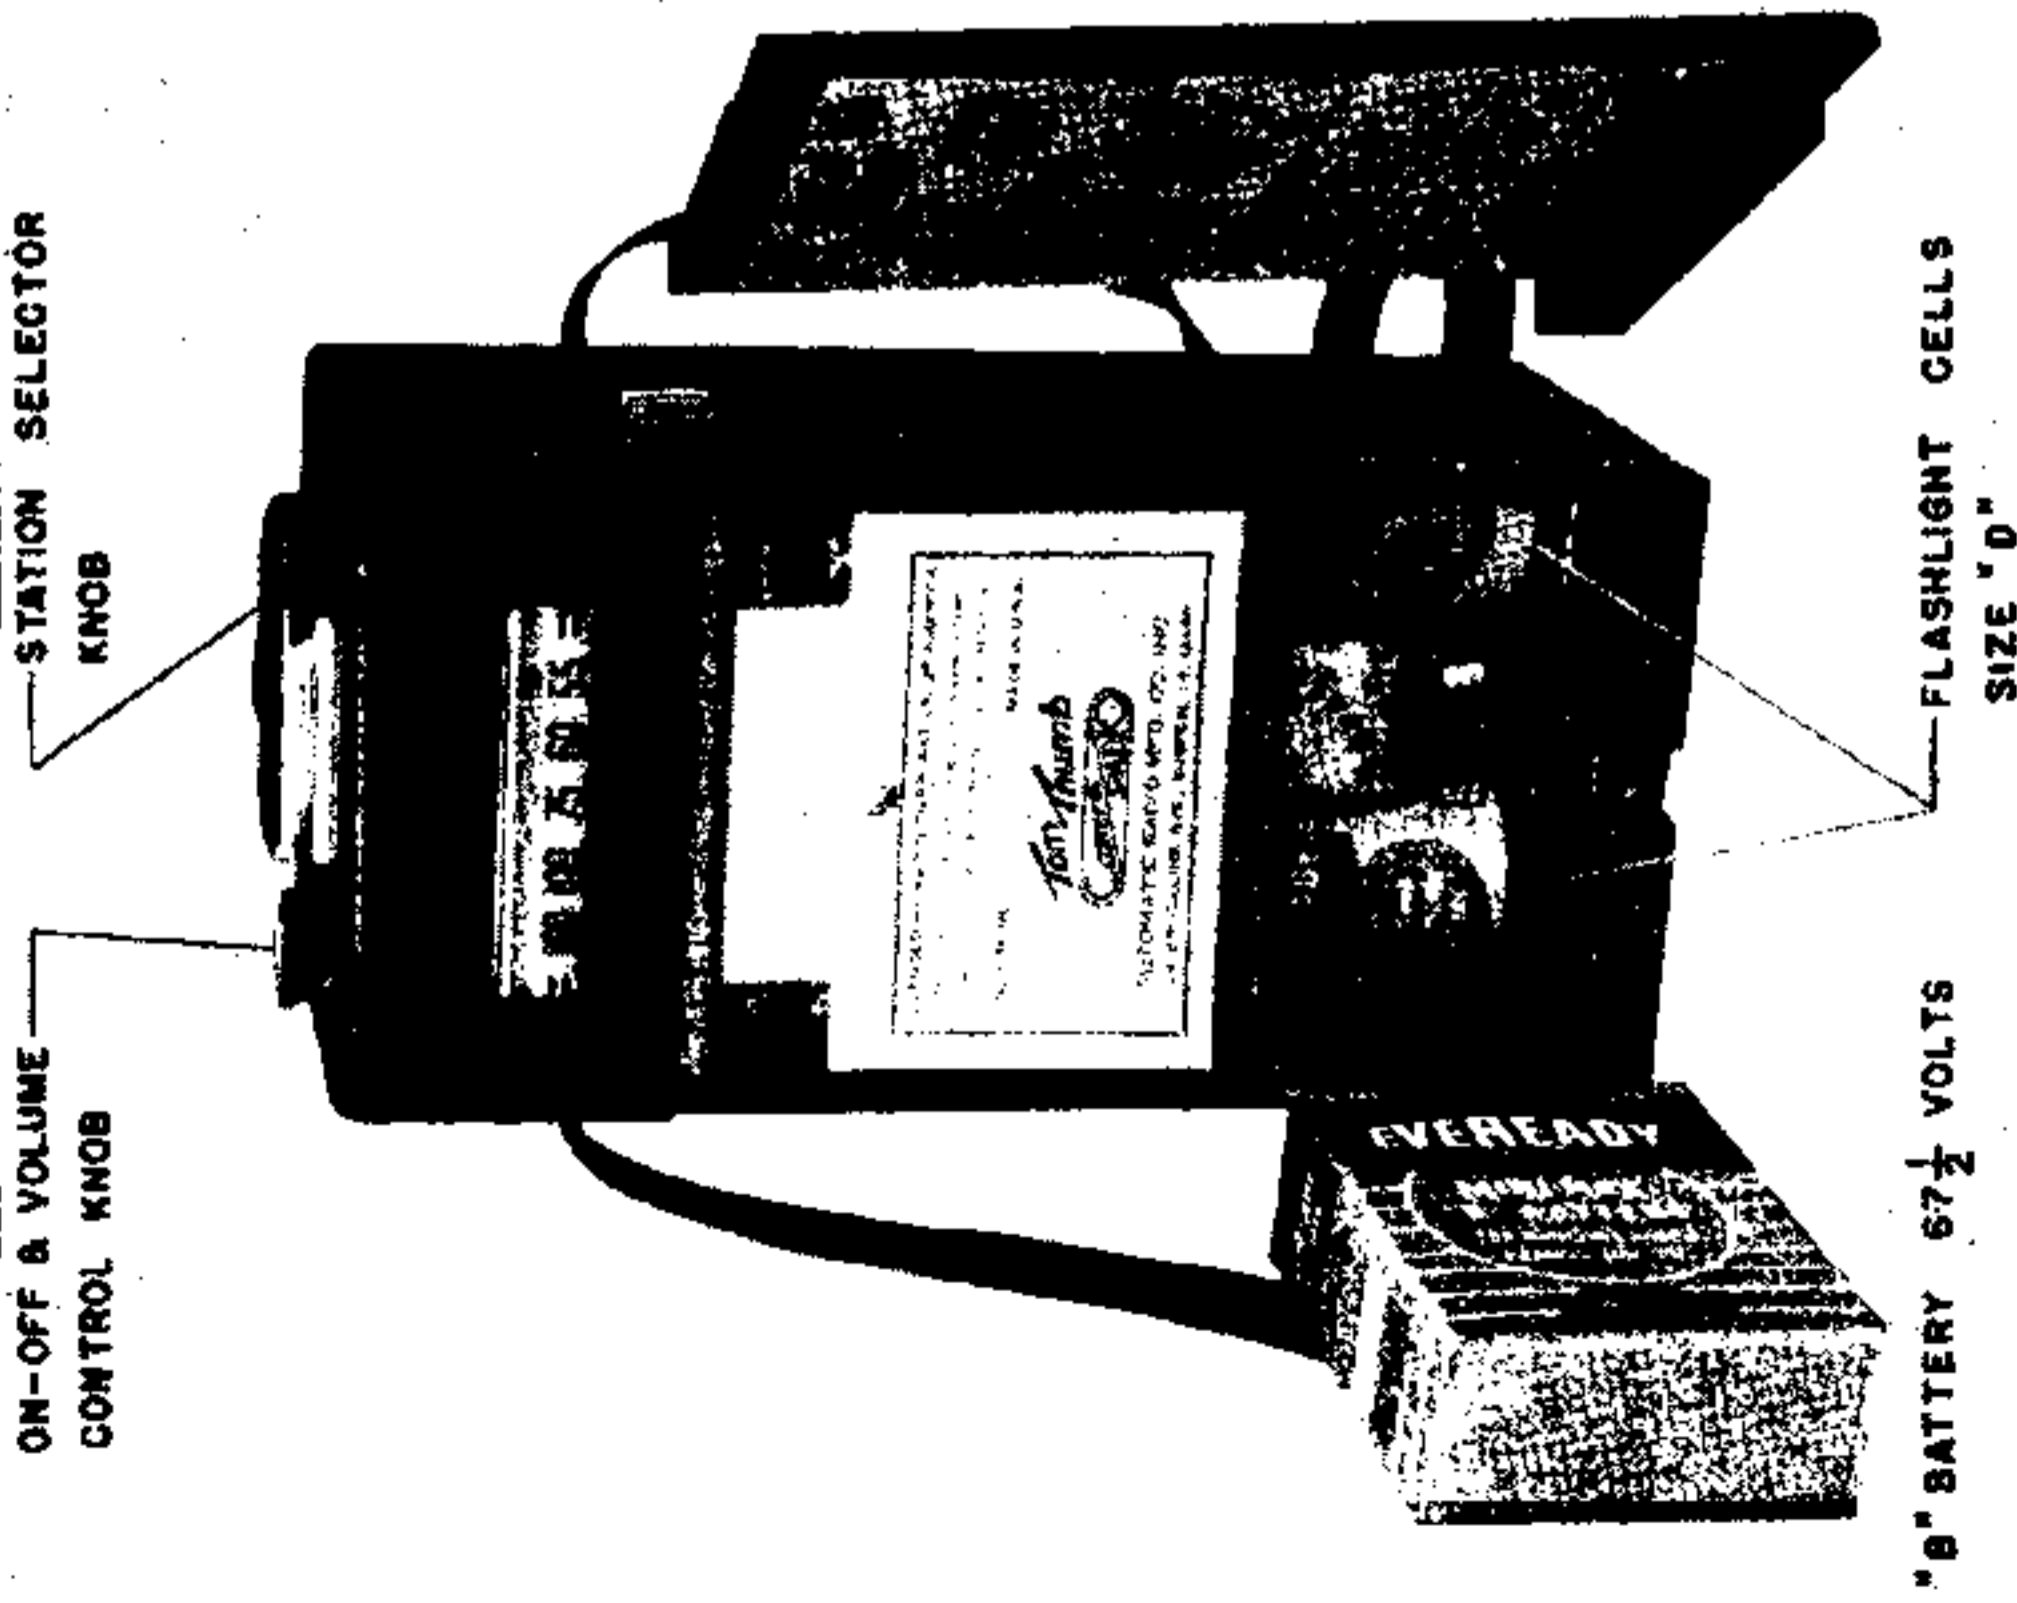

FIG. 2
**BATTERY INSTALLATION (See Figure 2)**
3. Insert flashlight cells on each side of speaker frame as indicated in Figure 2.
5. Place "B" battery over flashlight cells (See Fig. 2).